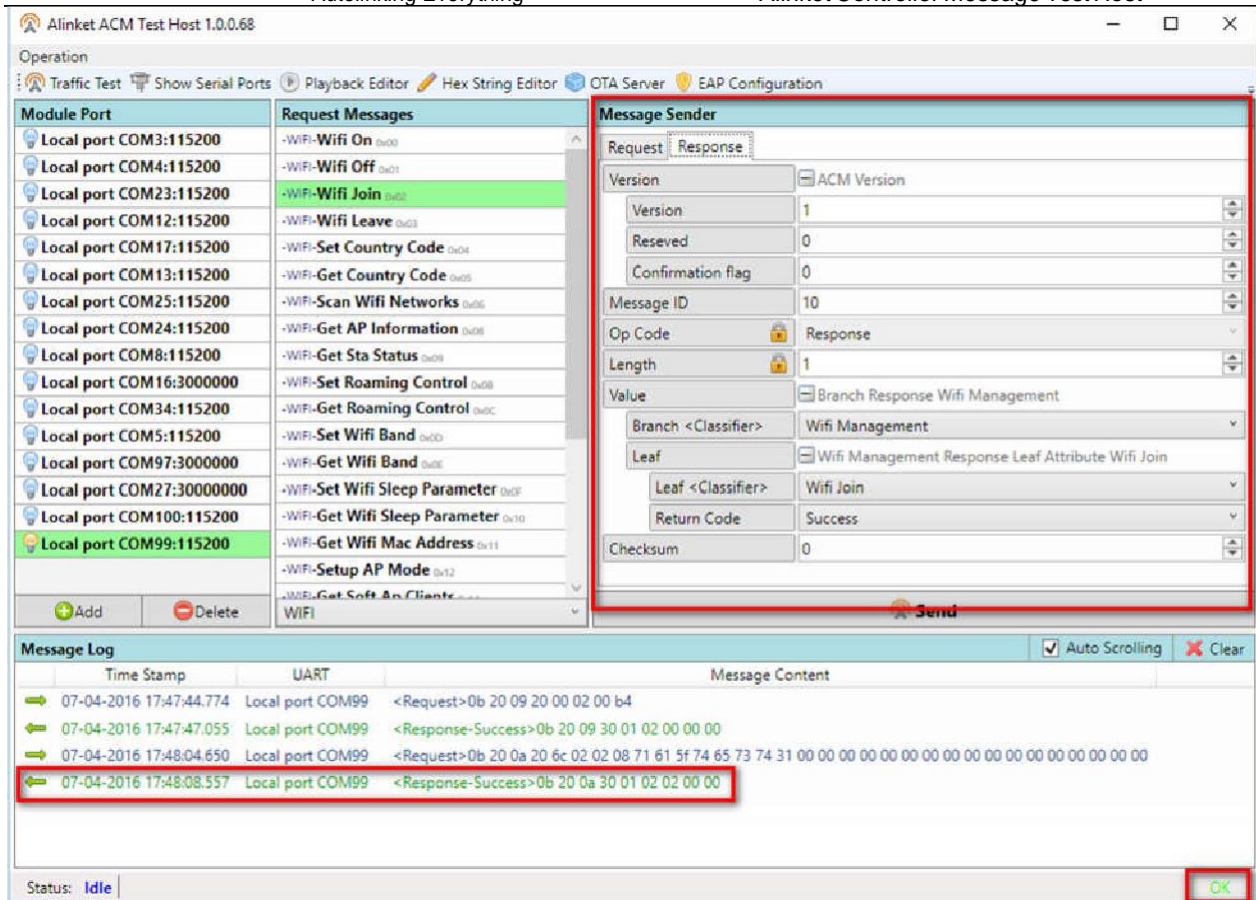

Figure 11 Response Message Parsing Result
**Step-3:** Once the Module finished processing the message and send the response message back, ACMTH will parse the messages and display the parsing result into the response Tab. Also the response message raw bytes sequence will be added as log into the log box. As Figure 11 shows.